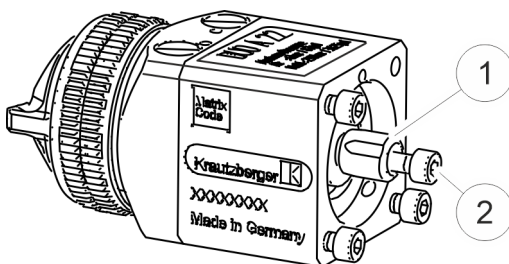

Fig. 22: Removing the material needle
6. ➡ Screw a cylinder screw ( Fig. 22/2) into the control piston ( Fig. 22/1).